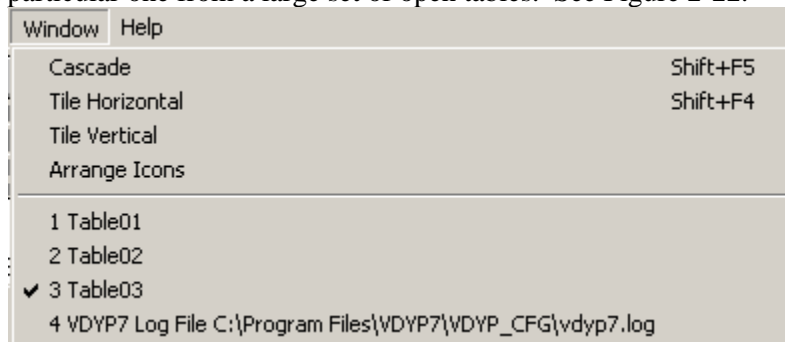

Figure 2-22: Window Menu
This menu allows you to select and manipulate the table windows you have open, and the *Log File* window. Using this menu you can create orderly arrangements of all open windows or select a particular one from a large set of open tables. See Figure 2-22.
- Press **Alt-W** to activate the *Window* menu, then press the number corresponding to the window you want to display. For instance, in Figure 2-22, if you wanted the *Table02* window, press **2**.